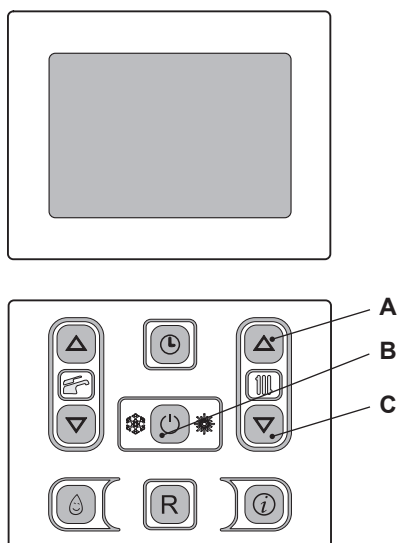

Figure 9.5
- 1 To enter in the parameters setting mode press contemporary the 3 keys (A - B - C Figure 9.5) for 10 seconds at the same time until **P01** are displayed on the display, indicating the entry in the “parameter 01” and the value of parameter (Figure 9.5 - Figure 9.6).
To reset the boiler to the normal operation press the key B (Figure 9.5) for 10 second or turn off the electricity supply to the boiler.